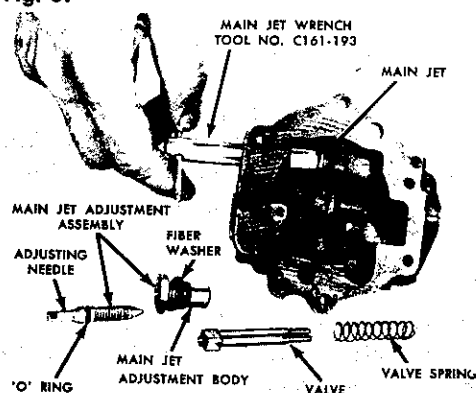

FIG. 8
15. Use main jet wrench C161-193 to remove main jet. Fig. 8.
NOTE: Many PC-1 Carburetors are equipped with a compensator jet, see Fig. 8-A. Compensator Jets and main
1. Install main jet and compensator jet (when used) with Tool C161-193. Fig. 8 and 8-A.
2. Place a new fiber washer on main jet adjustment body. Install and tighten with a $\frac{5}{8}$ " socket wrench. Fig. 8.
3. Place a new o-ring on main jet adjusting needle. Seat adjusting needle, then back it out 2 to 3 turns. Fig. 8.